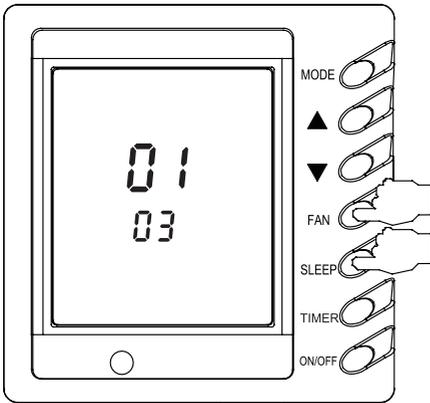

Fig.20
Under the off state of unit, press the FAN and SLEEP/SWING buttons at the same time for 5s into setting interface, as shown in Fig.20."01" is displayed in ambient temp displaying area and setting mode code is displayed in temp displaying area which can be adjusted by pressing ▲ or ▼. There are 4 kinds of selections:
- (3) Under heating mode, select wired controller's temp sensor or under other modes select air inlet's temp sensor and the setting temp area displays 03, as shown in Fig.20.